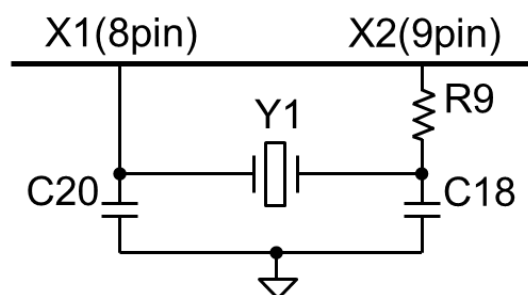

Figure 2-3 Crystal oscillator circuit connection example
- Figure 2-3 shows a connection example of the crystal oscillator circuit.